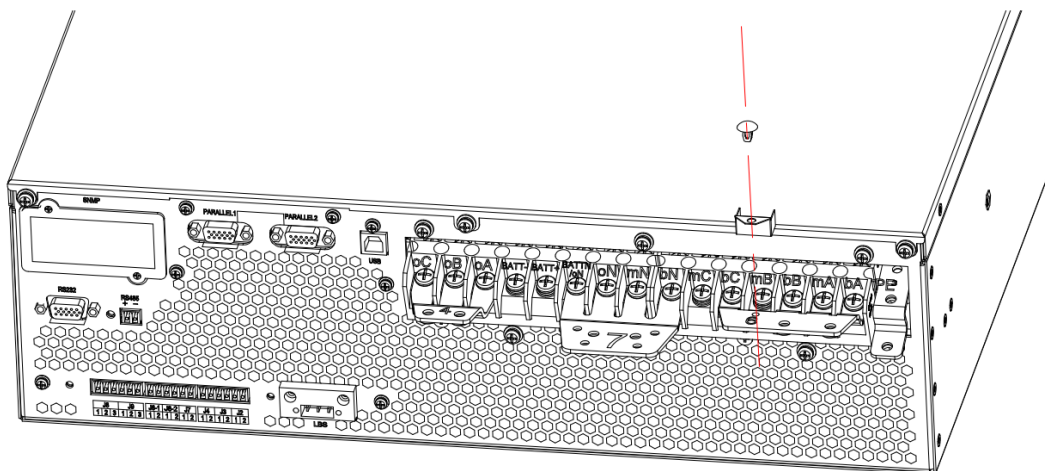

Fig. 3-16 Fix insulation film
- 3、 In Figure 3-16, mount the insulating film (accessory) to the No.6 copper bar, and fixed in the corresponding position with the plastic rivet, as shown in figure 3-27